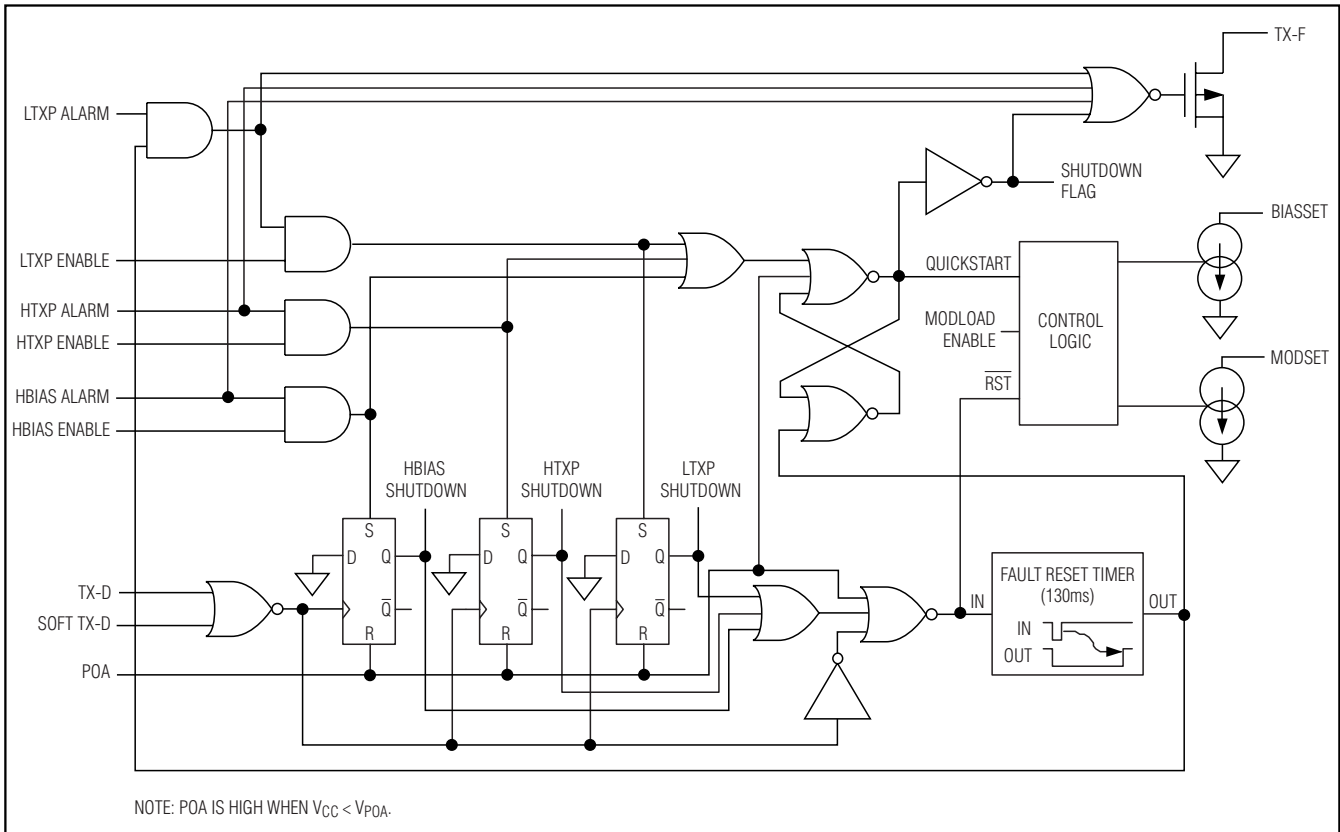

Figure 13. Quick Trip Logic Diagram
The DS1861 has a VCC monitor plus three programmable quick-trip (QT) fault monitors (Figure 13) that can trigger the TX-F output. The QTs monitor for high transmit power (HTXP), low transmit power (LTXP), and for high bias current (HBIAS). All the QTs feature programmable trip levels, an alarm disable, and a shutdown enable to determine if the enabled QT alarm shuts off the IBIASSET and IMODSET outputs.
The high and low transmit power quick-trip thresholds are each programmed by 3 bits that select one of seven different levels as a function of the expected IBMD current. Each QT monitor can be disabled by programming all three bits to zero. Disabling a QT by programming its control bits to zero prevents the QT alarm flags from ever being set, which consequently prevents that monitor from asserting the TX-F output, latching the device into a shutdown condition, or setting the alarm bits in the Status register. The HTPX and LTPX enable bits can be used to prevent the transmit power level QTs from causing shutdown while allowing the TX-F output to be set to flag the system of a transmit power fault condition. Figure 13 shows the shutdown logic. Tables 1 and 2 show the QT thresholds as a function of IBMD current-set point.